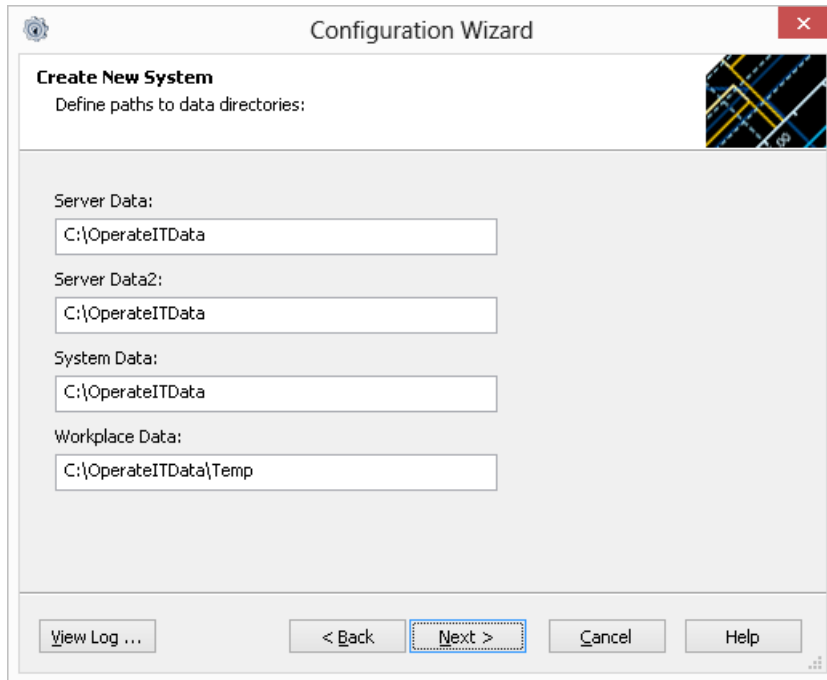

Figure 11. Define Data Directories
- In the next dialog box you specify data directories, see Figure 11.